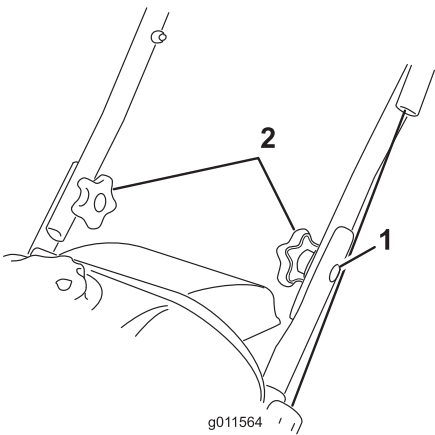

Figure 4
2. Insert the oval-head bolts into the aligned holes, with the bolt heads on the outside of the handle (Figure 4).
1. Oval-head bolt (2)
3. Install the curved washers and the handle knobs on the oval-head bolts on the inside of the handle (Figure 4) and **tighten the knobs securely**.